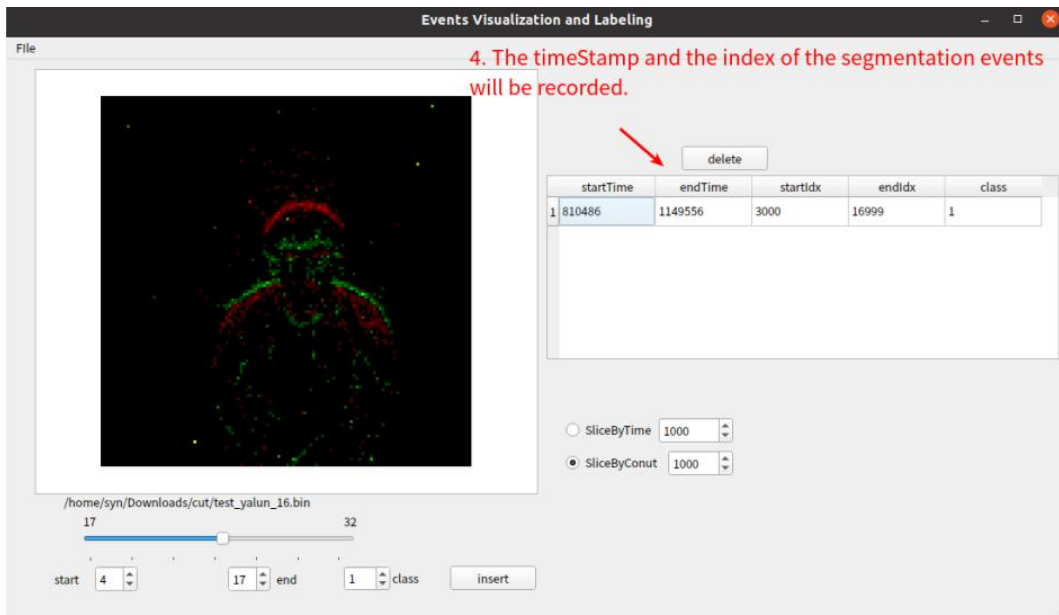
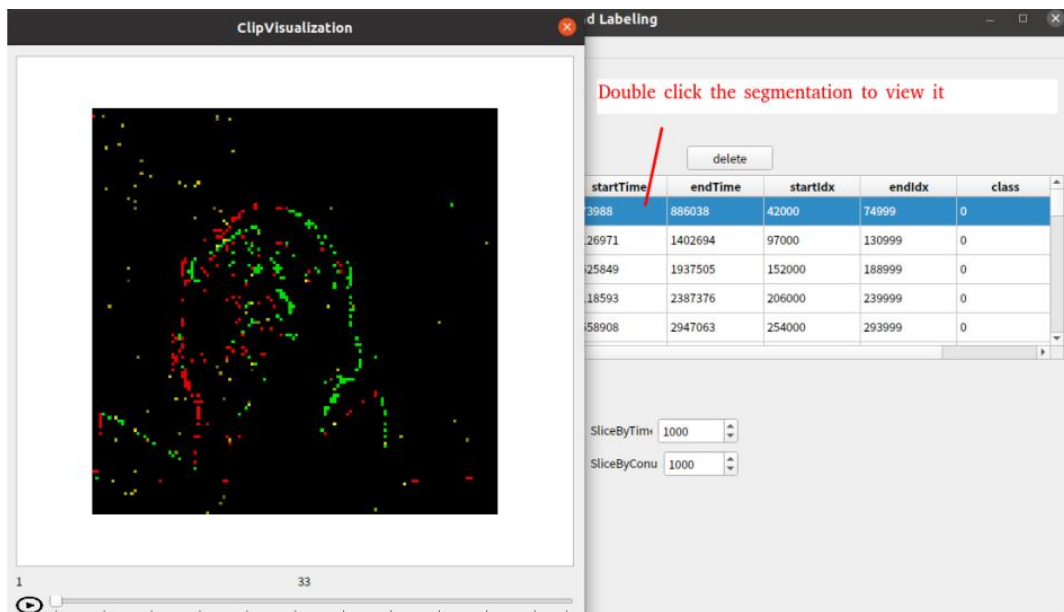

Figure 18: DVS tool add label
Figure 19: DVS tool visualize the labeled data
4. Click insert to add info of segmentation(Figure 18) and double click label visualize the labeled data(Figure 19).